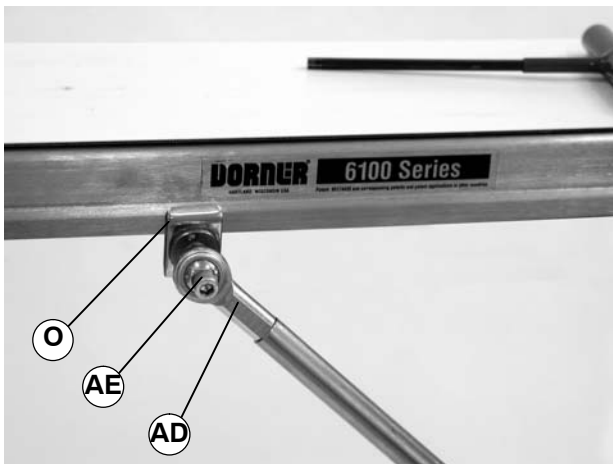

Figure 10
- b. Attach the diagonal brace end (AD of Figure 10) to the mounting clip (O) with socket screw (AE).
<p>WARNING</p> <p>Failure to secure screw (AE of Figure 10) may cause conveyor sections to drop down causing severe injury.</p> <p>TIGHTEN SCREW (AE) AFTER ADJUSTMENT.</p>
- c. Tighten screw (AE of Figure 10) to 100 in-lb (11 N-m).